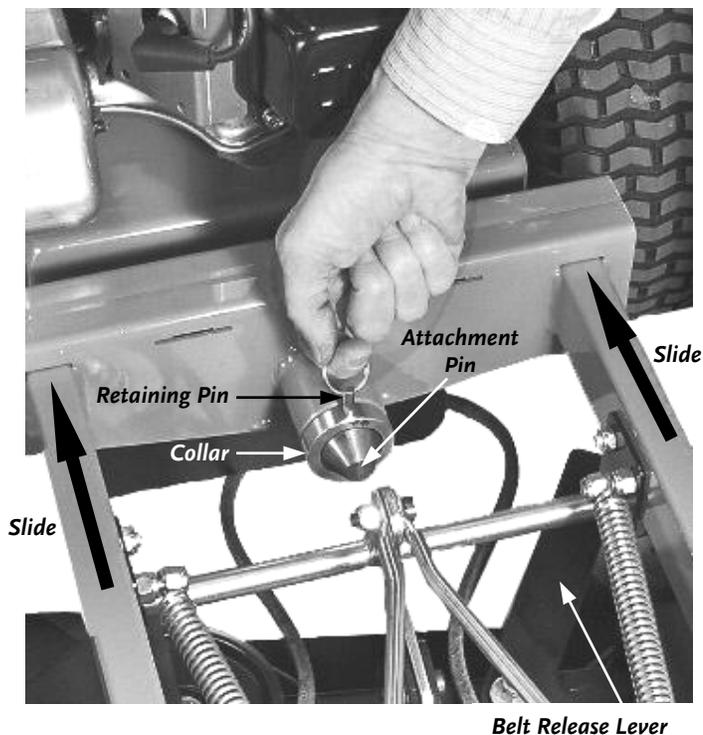

Figure 6
2. With the help of another person to steady the machine, line up the Lawn Deck with the Attachment Pin and slide the Lawn Deck onto the Pin (**Figure 6**).
3. Attach the Collar and insert the Retaining Pin (**Figure 6**).